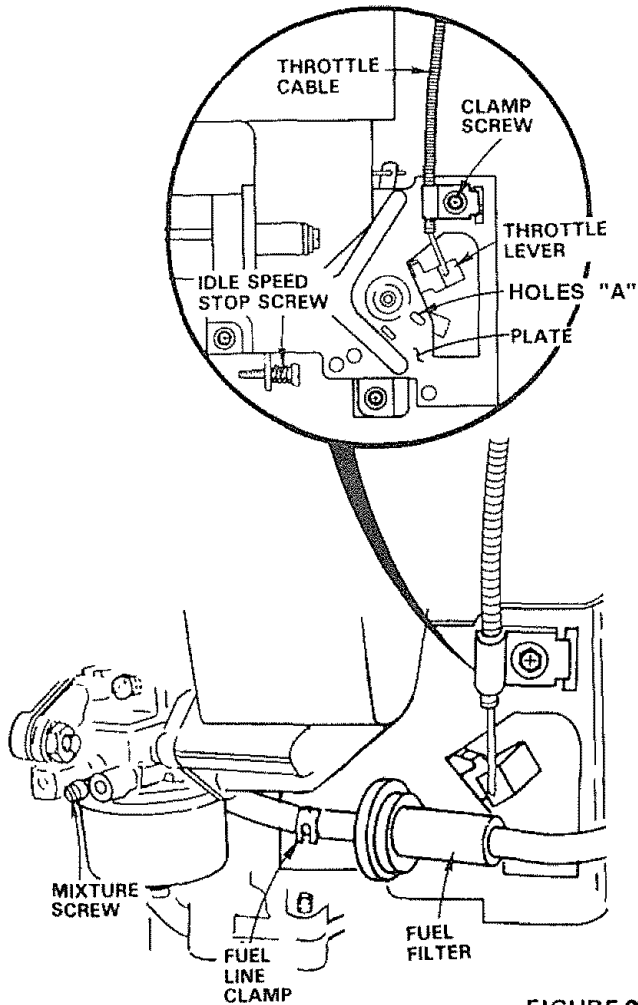

FIGURE 20
- Check that hole in throttle lever and hole in plate line up (Fig. 20 - Insert). If holes "A" are not aligned, loosen clamp screw and move throttle cable until holes are aligned. Tighten clamp screw.
- With engine cool, remove filter and plug fuel line sections which were removed from both ends of fuel filter (Fig. 20).